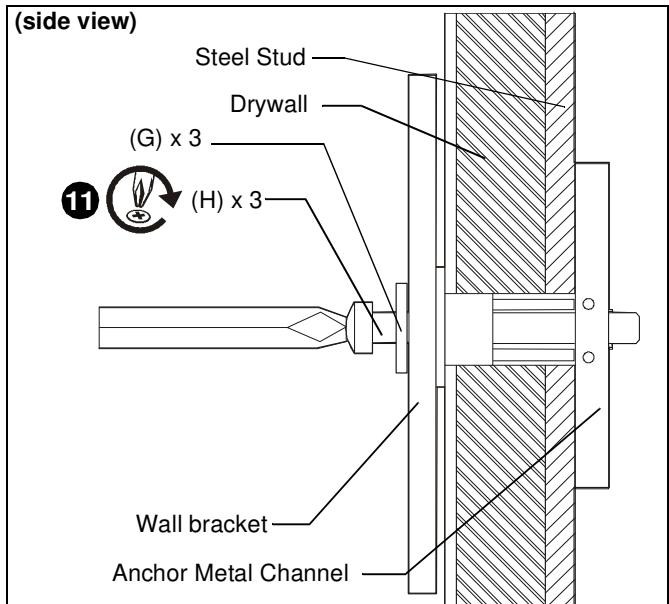

Figure 9
10. Place wall bracket over anchors and align mounting holes in display mount with holes in anchors. (See Figure 9)
11. Insert 1/4-20 x 1-3/4" Phillips pan head screws (H) through 1/4" washer (G), corresponding mounting hole on wall bracket and into anchor (J) and tighten until flush against mount. DO NOT overtighten! (See Figure 9)